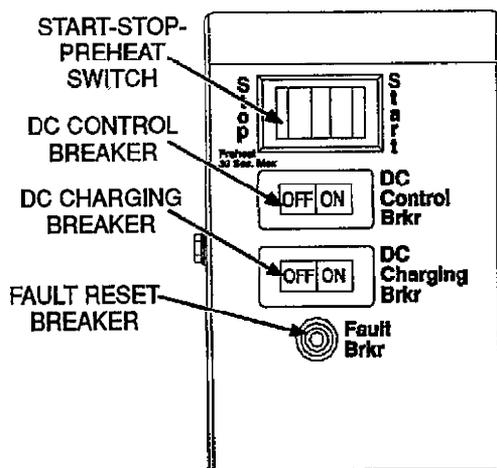
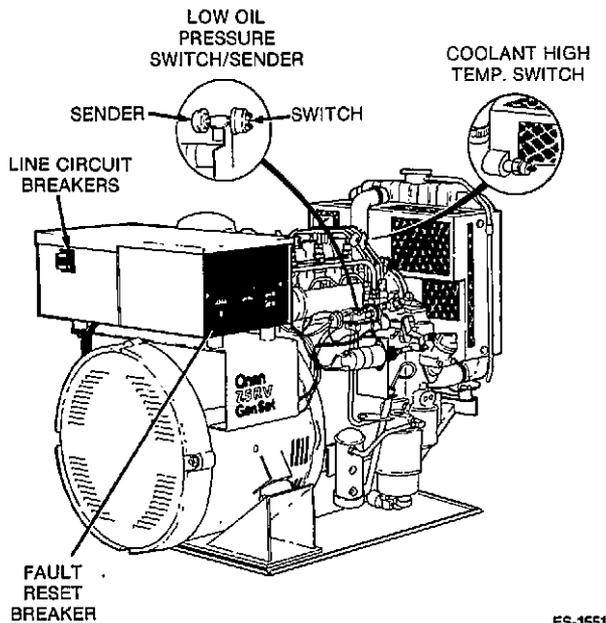

FIGURE 4. DC CONTROL BOX FRONT PANEL (REMOTE-MOUNT VERSION)
FIGURE 5. FAULT SENSOR LOCATION
**Fan Circuit Breaker:** The 8.0 DKD has a 15 ampere circuit breaker mounted on the side of the AC control box (see Figure 4). It protects the generator from a short or overload in the circuit provided for operating an AC remote radiator cooling fan (not used if a 12 VDC fan is used).
The DC control has a number of sensors that continuously monitor the engine for abnormal conditions such as low oil pressure and high coolant temperature. If any one of these conditions occur, the control stops the engine. See Figure 5.
The AC control consists of the line circuit breakers connected between the generator output and the load. Breakers are required to protect the generator from shorts or overload. When supplied by Onan they mount on the side of the control box on the 7.5, 6.5 and 6.0 DKD. See Figure 5. The 8.0 DKD has a fan circuit breaker mounted on the side of the AC control box as shown in Figure 4. Line circuit breakers are customer supplied on the 8.0 DKD and their location may vary.